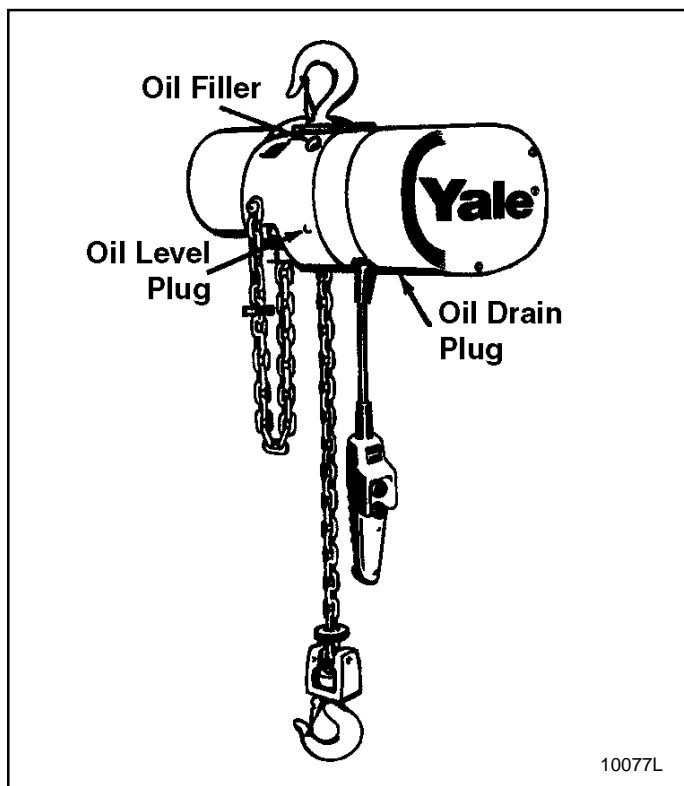

Figure 4-1. Location of Oil Filter and Plugs
4-2. CHANGE GEAR CASE OIL (Fig. 4-1).
(1) Check to see that bolts securing motor to frame are tight. Also check for any visible damage to motor, such as a cracked end bell or dented stator housing. Replace damaged parts.
(2) Check hoist frame for signs of visible damage. If frame shows evidence of fracture, the hoist should be disassembled and inspected for further signs of damage from possible overloading. Replace damaged parts. Also check condition of limit lever.
(3) Check for possible damage to electrical compartment cover. Be sure screws holding cover are tight.
**e. Check Oil Level.** Remove oil level plug (fig. 4-1). If oil level is not even with bottom of tapped hole, add Automatic Transmission Fluid, DEXRON Type, to bring to proper level.